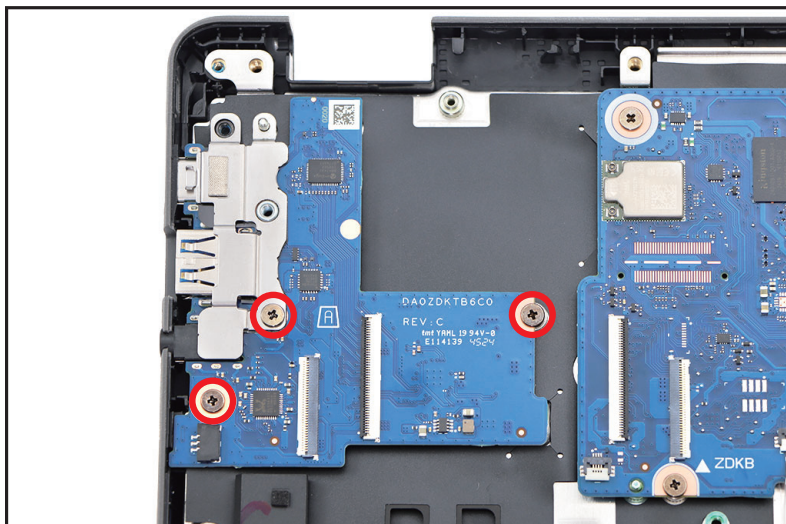

Figure 3-30. USB Board Removal
3. Remove three (3) screws securing the USB board and I/O bracket (Figure 3-30).